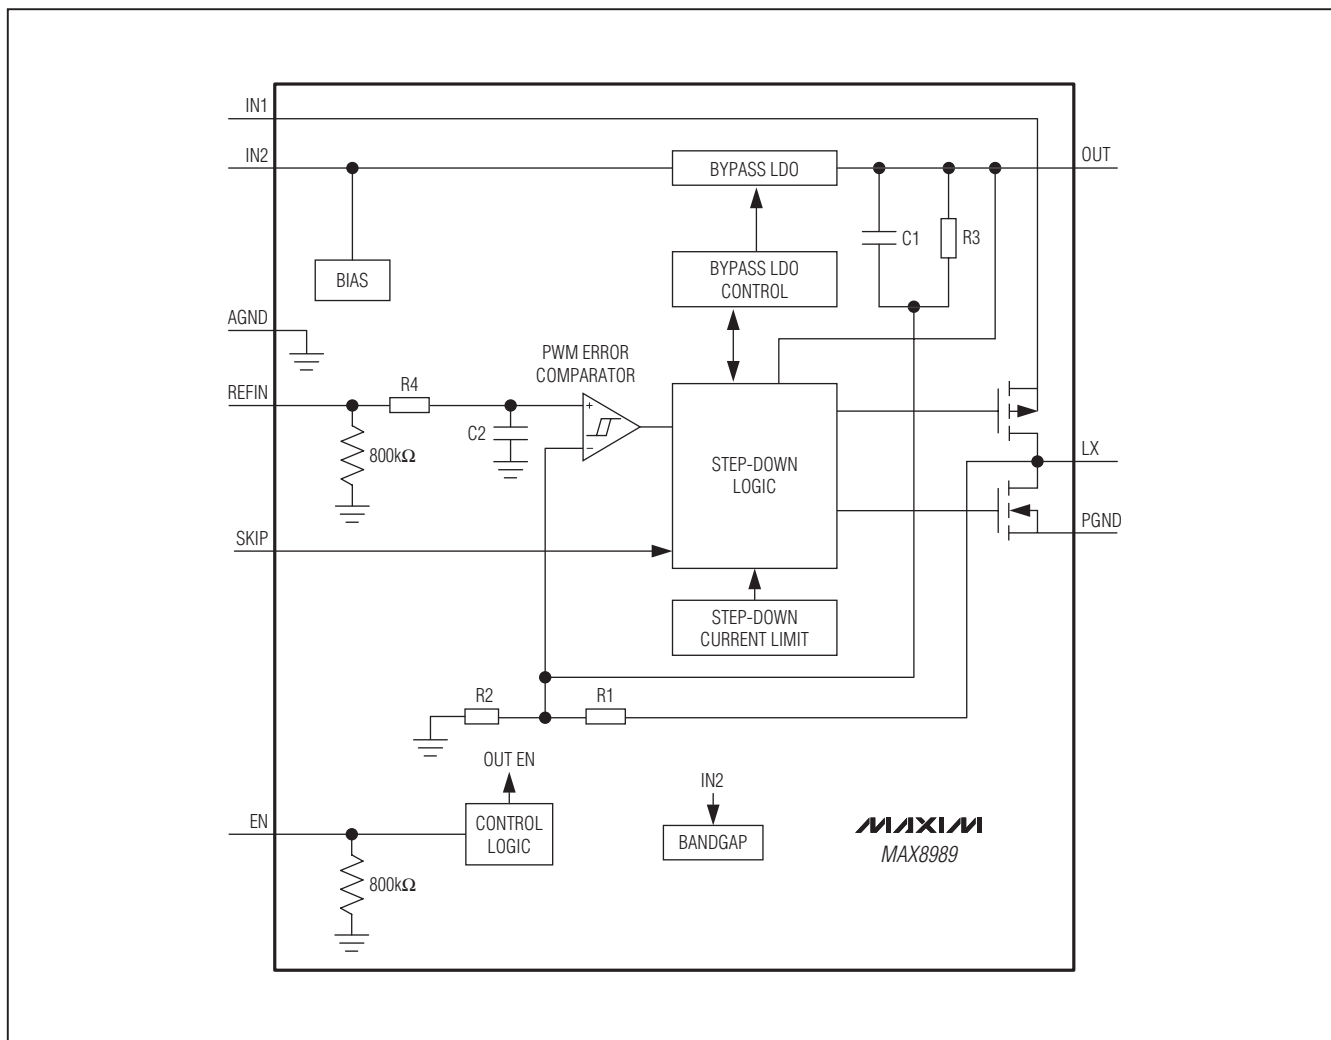

Figure 1. Functional Diagram
Hysteretic control is sometimes referred to as ripple control, since voltage ripple is used to control when the high-side and low-side switches are turned on and off. To ensure stability with low ESR ceramic output capacitors, the IC combines ripple from the output with the ramp signal generated by the switching node (LX). This is seen in Figure 1 with resistor R1 and capacitor C1 providing the combined ripple signal. Injecting ramp voltage from the switching node also improves line regulation because the slope of the ramp adjusts with changes in input voltage.
The IC step-down converter utilizes a unique feedback network. By taking DC feedback from the LX node through R1 of Figure 1, the usual phase lag due to the output capacitor is removed, making the loop exceedingly stable and allowing the use of very small ceramic output capacitors. To improve the load regulation, resistor R3 is included in the feedback. This configuration yields load regulation equal to half of the inductor's series resistance multiplied by the load current. This voltage-positioning load regulation greatly reduces overshoot during load transients and when changing the output voltage from one level to another. However, when calculating the required REF_{IN} voltage, the load regulation should be considered. Because inductor resistance (R_L) is typically well specified and the typical PA is a resistive load, the V_{REF_{IN}} to V_{OUT} gain is slightly less than 2.0V/V. The output voltage is approximately: